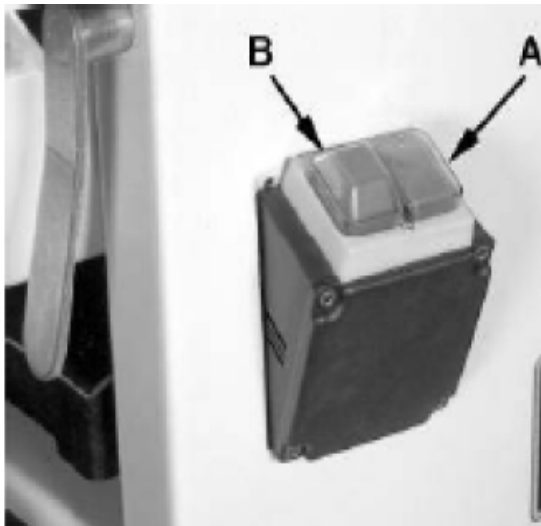

Fig. 7: START and STOP Buttons
Step 2: Press the green on button (Pos. A, Fig. 7).